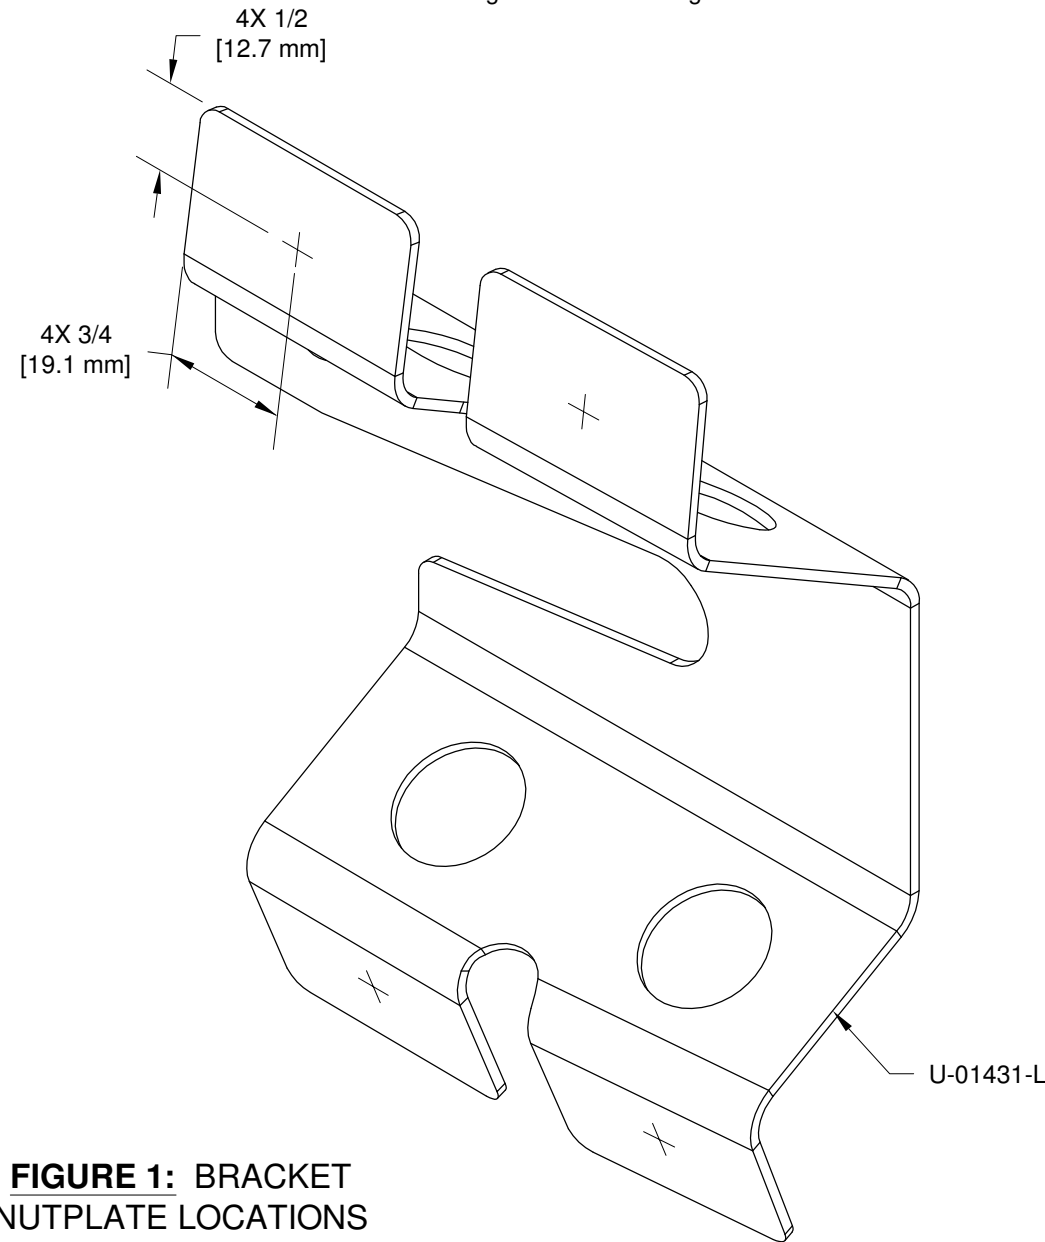

FIGURE 1: BRACKET NUTPLATE LOCATIONS
Step 1: Mark screw locations on the U-01431-L & -R Nose Wheel Fairing Bracket flanges as per Figure 1. The marks will be visible through the wheel fairing.